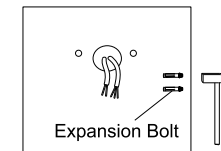

Figure 17
Step 2: Knock the expansion bolts into the wall. (Figure 17)